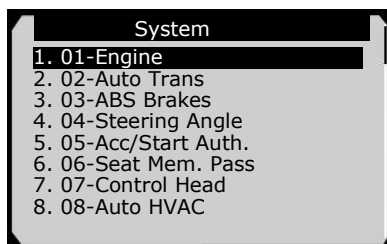

Figure 6.5
8. From **System** screen, use **UP/DOWN** scroll button to select the detecting system (Figure 6.5), and press **OK** button. Wait for the **Function** screen to appear.